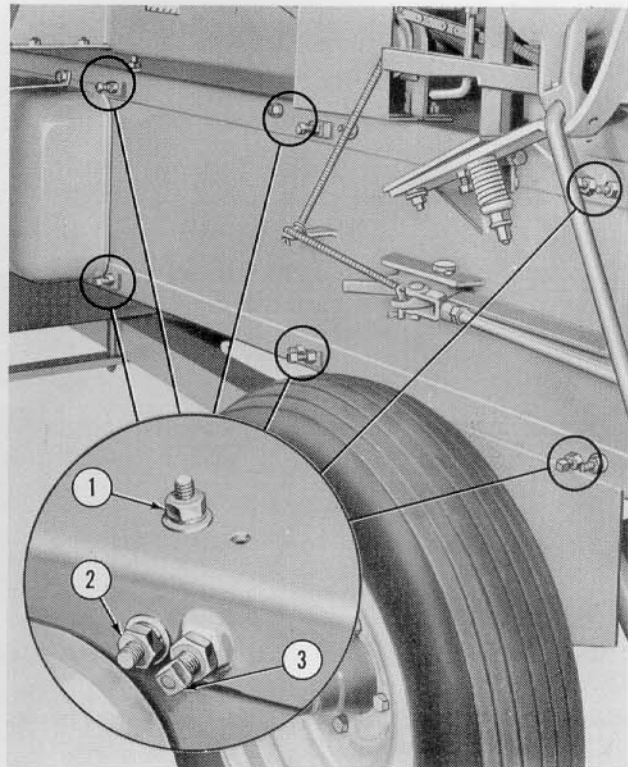

Figure 21
1. Loosen the nuts on the six wear angle retaining bolts (top and bottom of bale chamber). See (1), Figure 21.
2. Loosen the nuts on the six pull bolts (2), Figure 21, on the side of the bale chamber.
3. Loosen the jam nuts on the six adjusting set screws (3), Figure 21, and tighten the set screws until the plunger head fits snugly against the right side of the bale chamber without binding. This will eliminate plunger side play and should provide the proper $\frac{1}{16}$ inch clearance between the plunger and stationary knives.
4. Tighten the nuts on the retaining bolts (1), Figure 21, pull bolts (2) and adjusting set screws (3).
5. Loosen the nuts on the six wear angle retaining bolts (see 1, Figure 21) and back off the adjusting set screws (3).
6. Tighten the nuts on the six pull bolts (2), Figure 21, to pull the wear angles against the side of the bale chamber.
- Reinstall the plunger in the baler, taking care not to damage the runners on the lower wear strips. Reinstall the metering wheel, release the lower hay dogs, tighten the bale tension bars and re-adjust the wear angles by means of the set screws (3), Figure 21, as previously outlined above.